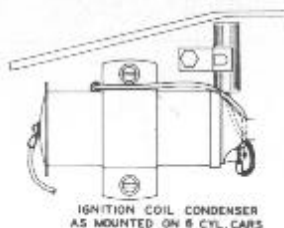

Fig. 6A.
3. On the six cylinder car, remove the bolt, above the ignition coil, from the firewall. Mount the condenser No. 22-1537 under this bolt. Connect the lead to the coil terminal as shown in figure 6A.